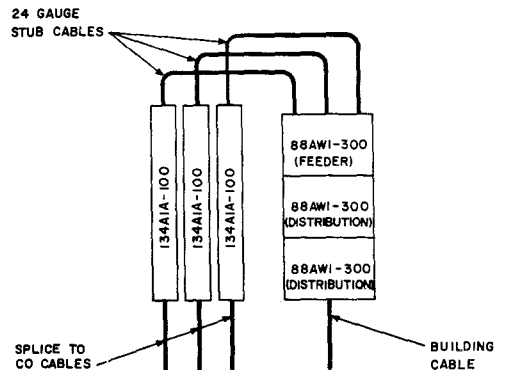

Fig. 18—Wall Mounting Terminal—300-Pair Entrance Cable—134-Type Protectors—600-Pair Building Cable
4.02 Starting at the left-hand side of the wall, mount the 134-type protector(s) to the wall (Fig. 18, 19, 20, and 21).
4.03 Mount the feeder wiring blocks on the wall as shown in Fig. 18, 19, 20, and 21.